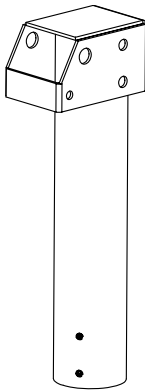

Figure 3-5: Mounting post
- ◆ mounting post (Figure 3-5)